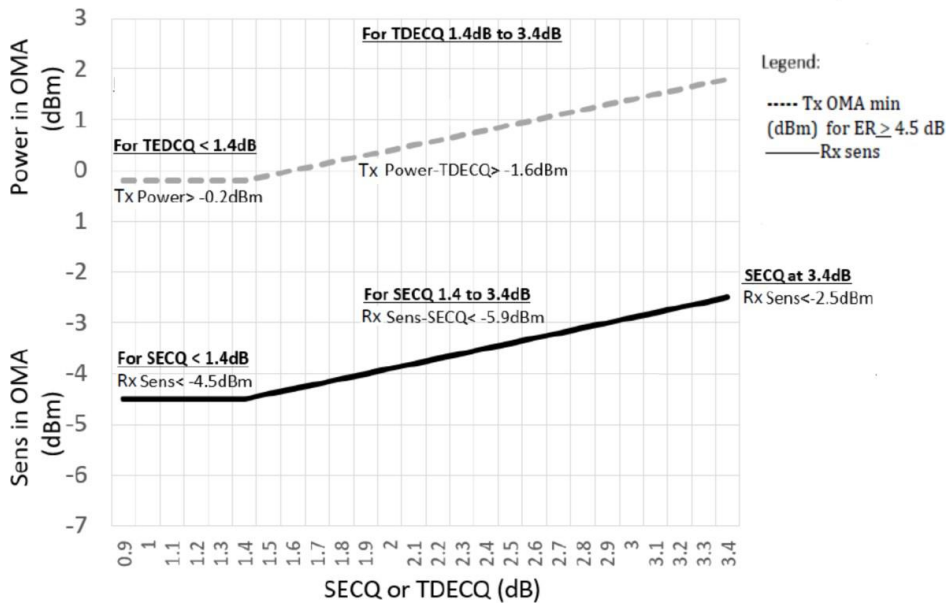

Figure 4. Illustration of Receiver Sensitivity Mask for 400G-DR4+
6. Receiver sensitivity (OMA_{outer}) is informative and is defined for a transmitter with a value of SECQ up to 3.4dB. Receiver sensitivity should meet Equation (1), which is illustrated in Figure 4.